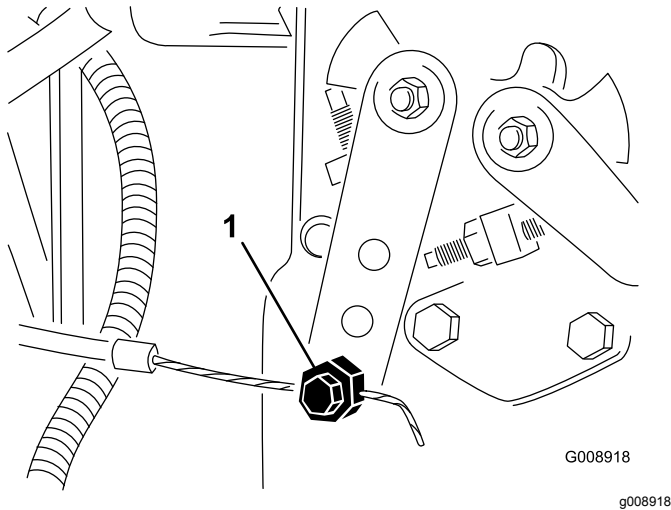

Figure 72
2. Loosen the throttle cable connector on the injection-pump lever arm (Figure 72).